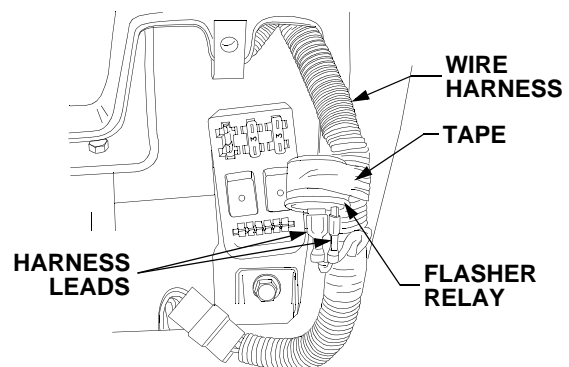

Figure 41
- Pull the wire harness from the dash opening. Cut and remove the electrical tape holding the flasher relay to the harness. See Figure 41